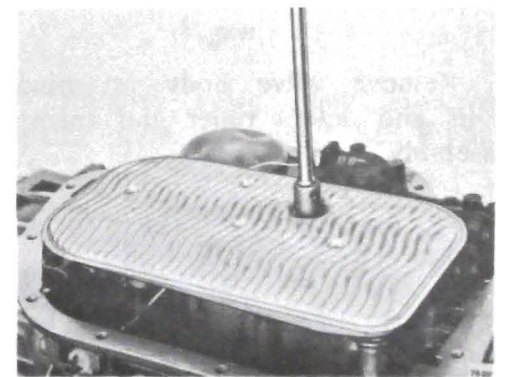

Figure 76-511
7. Remove the filter assembly retainer bolt. See Figure 76-511.